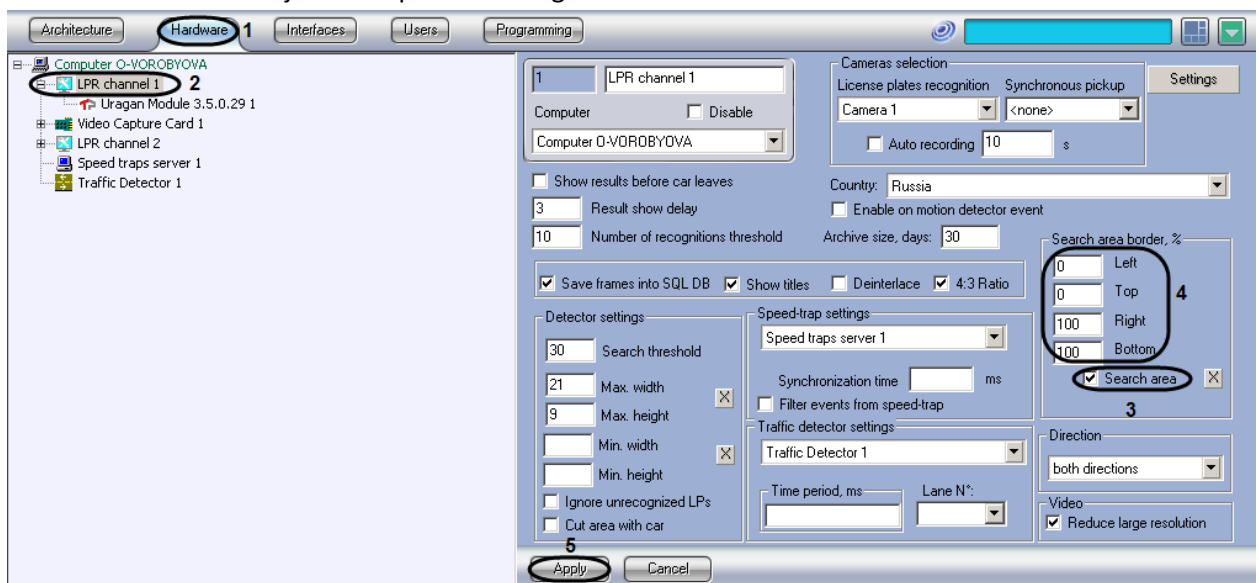

Fig. 7.2—22 Setting the exact borders of the LP number search area boarder
2. In the object tree of the Hardware tab, select the LPR channel, corresponding to the activated Auto-Uragan 3.5.0.29, CARMEN-parking, CARMEN-Auto, ACCR or VIT program module (see. «Program module activation, used for Plates identification», Fig. 7.2—22, 2). The settings panel of the selected object will open on the right side of the window.